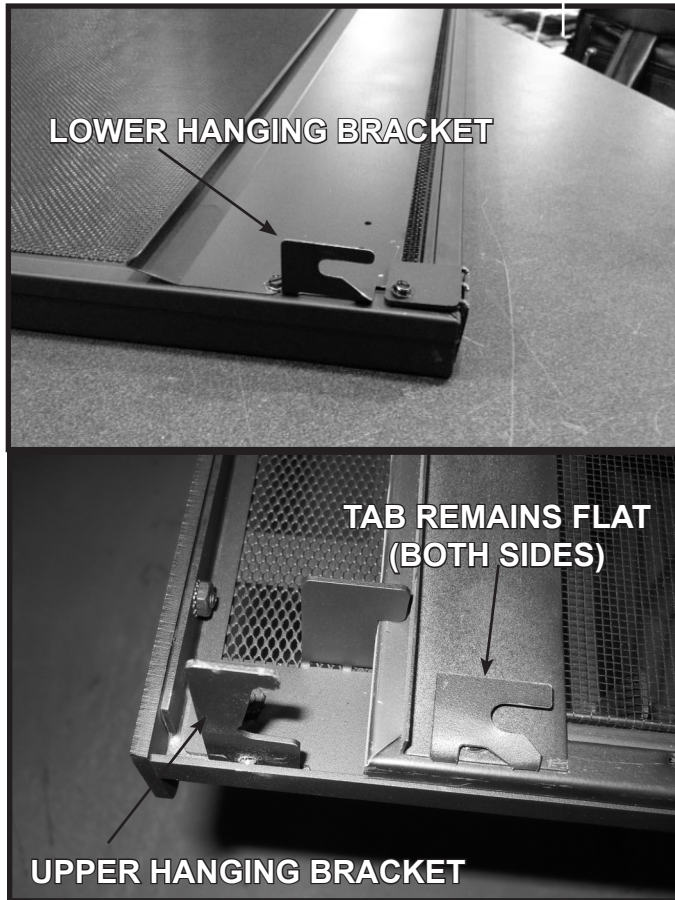

Figure 5. Bend Hanging Brackets
1. Bend all four of the hanging brackets (two upper and two lower) to a 90 degree angle as shown in Figure 5.